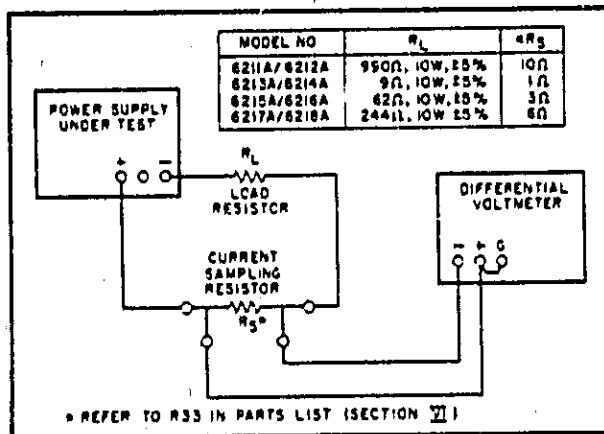

Figure 5-10. Constant Current, Test Setup
a. Connect test setup shown in Figure 5-10.
- Connect test setup shown in Figure 5-10.
- Utilize test setup shown in Figure 5-10.